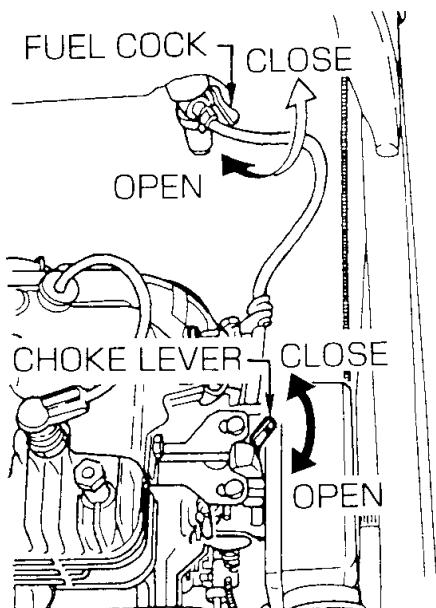
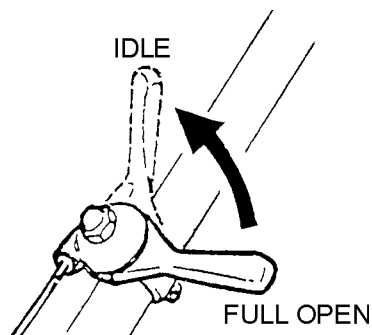
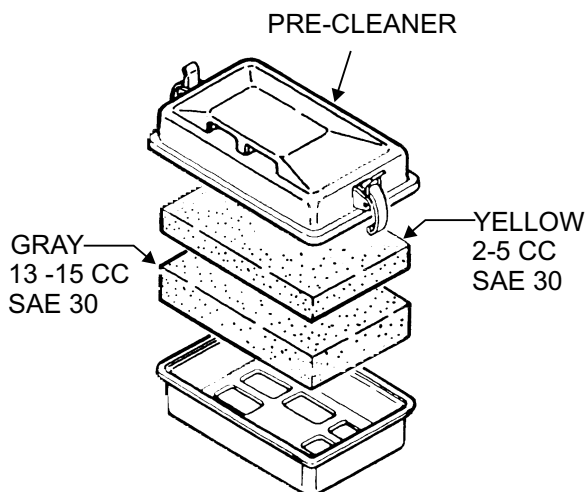

Figure 5. Fuel Cock and Choke Lever
Figure 9. Throttle Lever
Figure 10. Pre-Cleaner
1. Open the fuel shut-off valve by moving the **fuel cock** lever to the **open** position (Figure 5).
3. Close the choke lever (Figure 5) and move the throttle lever (Figure 9) to the "Full Open" position. Turning the choke lever 90 degrees clockwise closes the choke. In cold weather, start the unit with choke fully closed. In warm weather or when the engine is warm, the unit can be started with choke halfway or completely open.
5. If engine fails to start, move the choke lever (Figure 5) to the half open position to avoid flooding.
- To start the rammer tamping action, move the throttle lever (Figure 10) quickly from **IDLE** (close) to the **FULL OPEN** position. **DO NOT** move the throttle lever slowly as this may cause damage to the clutch or spring.
Make sure that the throttle lever is moved to the **FULL OPEN** position (Figure 9). Operating the rammer at less than full speeds can result in damage to the clutch springs or foot
- Move throttle lever quickly from the **FULL OPEN** to **IDLE** position (Figure 10) and run the engine for three minutes at low speed. After the engine **cools**, turn the engine *start/stop* switch to the "**OFF**" position (Figure 5) until engine comes to a complete stop.
- Close the fuel shut-off valve by moving the fuel cock lever to the **CLOSED** position. See Figure 5
- Remove the element from the pre-cleaner (Figure 10) at the top of the crankcase (body side) and clean it with cleaning oil (kerosene).